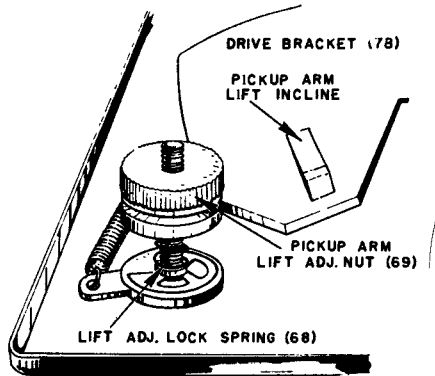

Figure 6. Adjusting Pickup Arm Height.
With the record changer out of change cycle and the pickup arm clear of the turntable, adjust the pickup arm lift adjusting nut (69) (see figure 6), so that the needle rests $1/16''$ above the top of the changer pan. Turning the nut (69) clockwise raises the pickup arm; turning it counter-clockwise lowers the pickup arm.